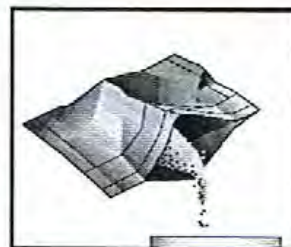

Figure 1
2. Empty the contents of one Zinc Foil Pack into the reaction tube (fig 1). Cap the reaction tube and shake it vigorously for exactly **2 minutes**.